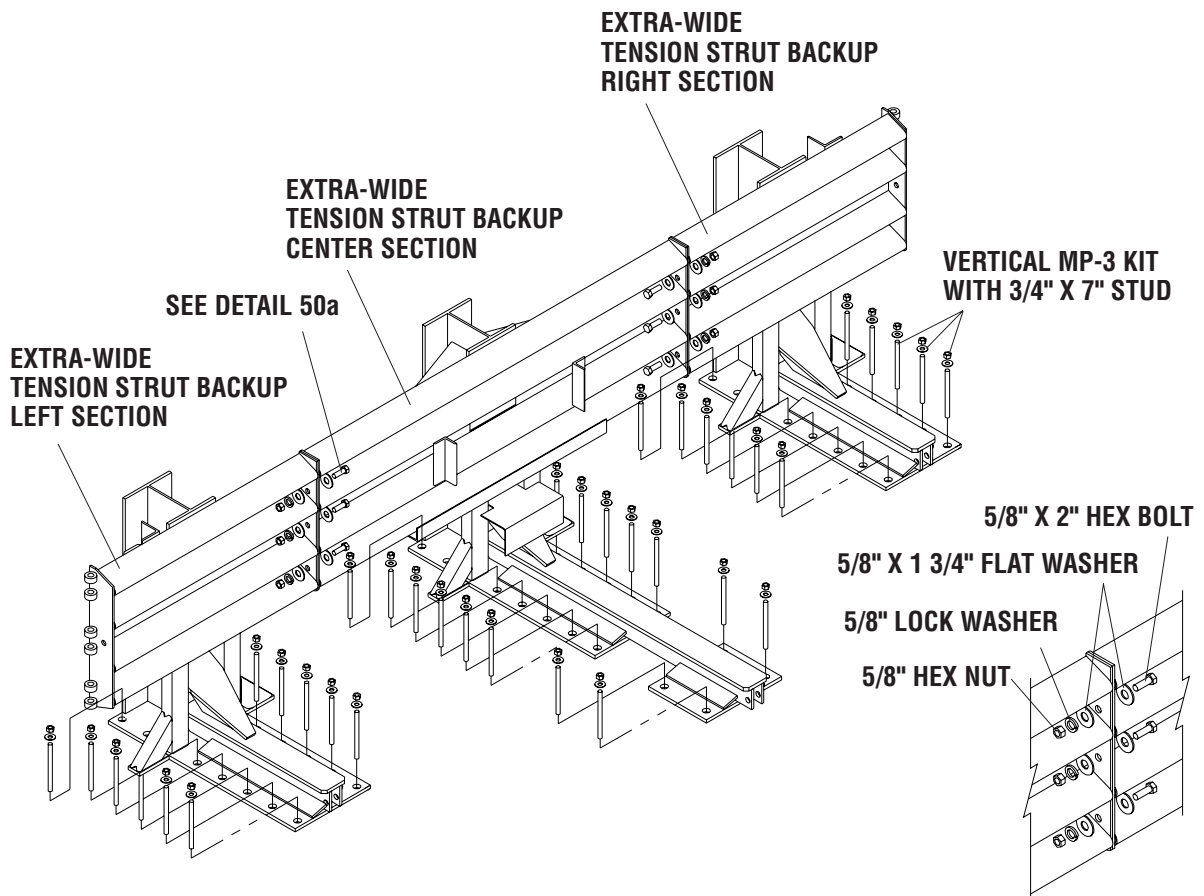

Figure 49
Extra-Wide Tension Strut Backup Installation (figure 49)
Secure the backup sections to each other using 5/8" x 2" hex bolt, 5/8" x 1 3/4" flat washer (2), 5/8" lock washer & 5/8" hex nut (6 places) as shown in Figure 49 & Detail 49a.